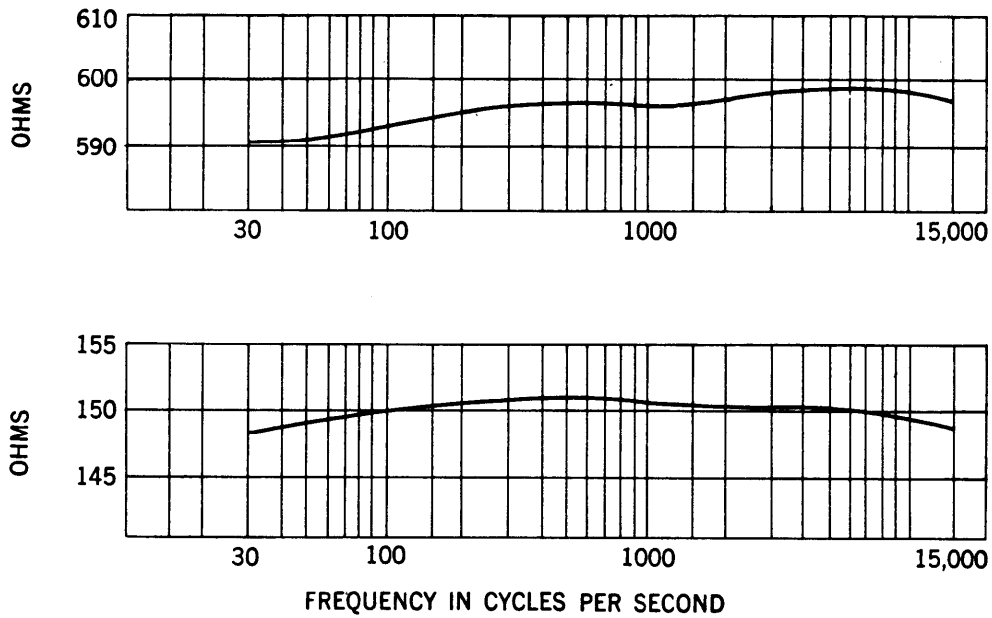

Fig. 6 - Output Impedance vs Frequency
5.02 Fig. 6 shows the typical output impedance of the amplifier with frequency for a 600- or 150-ohm connection.